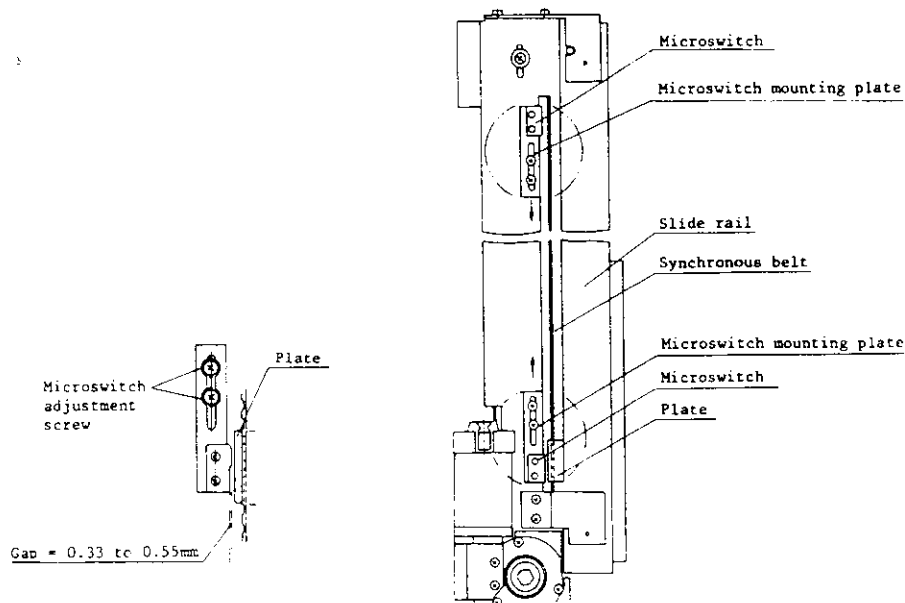
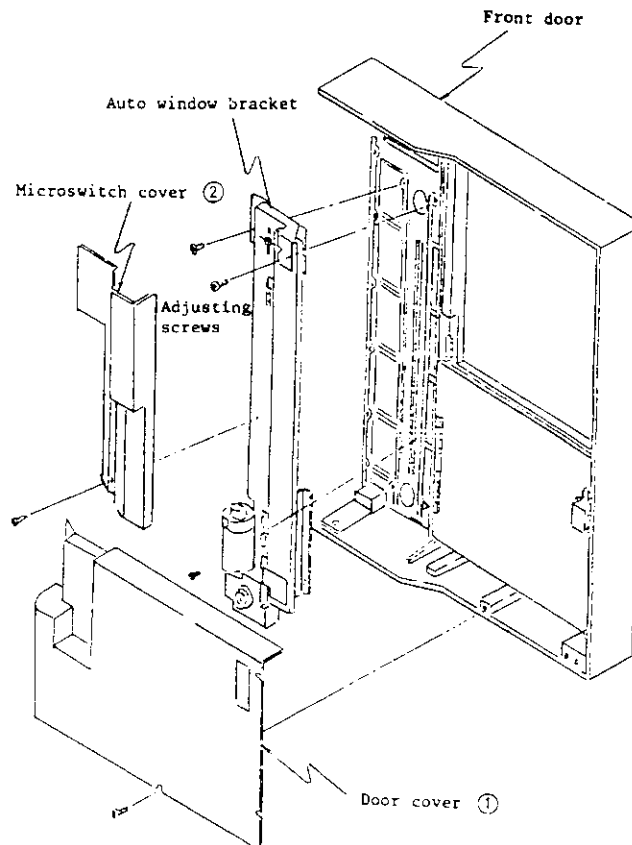

Figure L.32 Microswitch removal and adjustment
Figure L.33 Auto window bracket
- (1) Remove the cover ① of the front door. (See Figure L.33 in L0300-2.)
- (2) Remove the cover ② over the two window microswitches.
- (3) Remove the microswitch to be replaced. See Figure L.32 for location of two microswitches.
- (4) Detach the leads from the terminal.
- (1) Install the window microswitch(es) in the reverse order of removal.
- (2) Adjust the gap between the microswitch and the actuator from 0.33 mm to 0.55 mm by loosening the adjustment screws, as shown in Figure L.32.
- (3) When the power supply is turned on and the window is opened and closed, check that the top of the window touches the sponge surface and that it is 0 to 2 mm above the bottom. If incorrect, readjust.